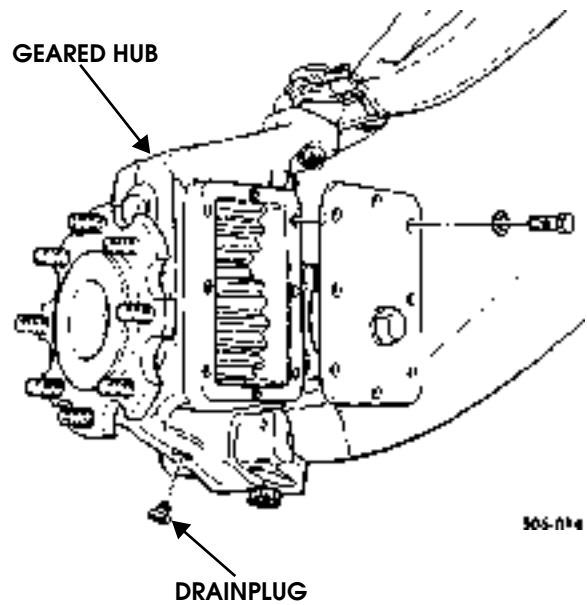

Figure 9-41: Geared Hub Drainplug Location
2. Remove drainplug and drain geared hub oil. Install drainplug into geared hub. Tighten drainplug to 8-13 lb-ft (11-18 N•m) (Figure 9-41).